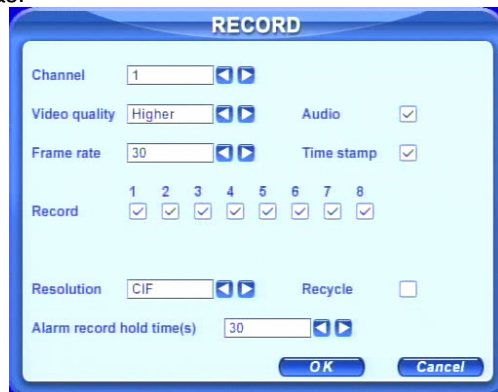

Fig 3.7 Record Setup
STEP1 Enter RECORD configuration, refer to Fig 3.7 Record Setup. Select cameras.